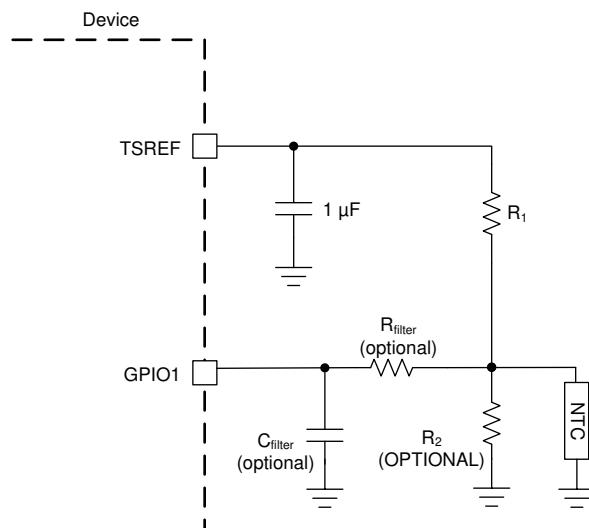

Figure 9-6. Thermistor Connection
Figure 9-6 shows the thermistor circuit when GPIO is enabled for thermistor measurements. MCU ensures TSREF is enabled by setting *CONTROL2[TSREF_EN]* = 1 and settled before taking the measurement value.
- *R1* is the pull-up resistor as shown in Figure 9-6 with the assumption the R2 is not used